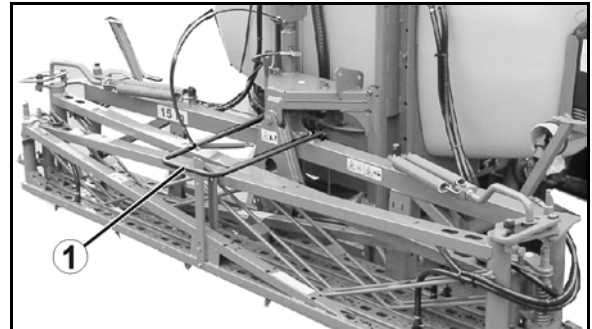

Fig. 9
- Transport locking mechanism (Fig. 9/1) to prevent the **Q-plus** boom from folding out unintentionally